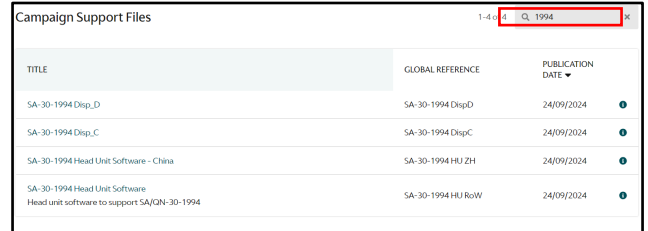

Figure 1
2. Navigate to Campaign support Files and search "Camera Patch Head Unit Software" in the search box (refer to Figure 1).